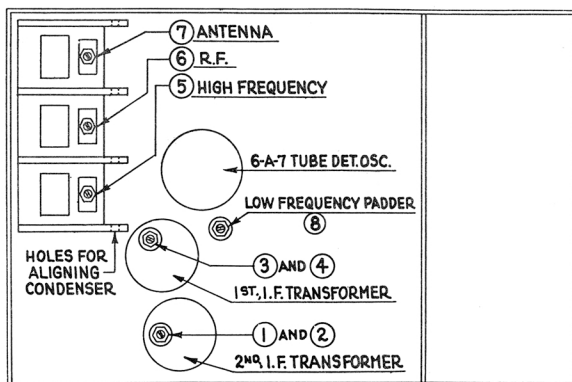

Fig. 32
Remove the speaker lid from the Receiver and disconnect the antenna lead from the Receiver. Remove the grid cap from the 6A7 tube (for location see Fig. 32).
Set up the signal generator and adjust it to exactly 260 K.C. Connect the signal generator lead to the grid cap of the 6A7 tube and ground lead to the shield. (See Fig. 32). The output meter must be connected by means of the adapter to the small prong of the speaker plug and to the chassis.
The compensators ① and ② (2d I.F.) are adjusted first (Fig. 32). Turn the adjusting screw ① all the way in. Then, with signal generator attenuator set so there is approximately half-scale reading, adjust the nut ② with a fibre wrench for the maximum reading on the output meter.
There are four holes in line, one in each of the sections of the tuning condenser housing. (See Fig. 32). Place a nail of the size that fits snugly through the holes and then turn the condenser plates out of mesh until they strike against the nail.